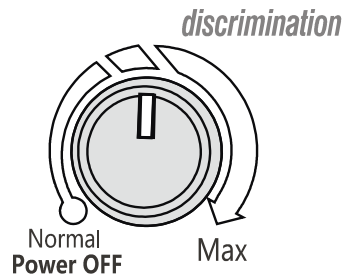

Figure.15
- Set the DISCRIMINATION to about “12:00” position (Figure.15). Adjust the balance to let the detector sound a hum tone, and the show is “0”